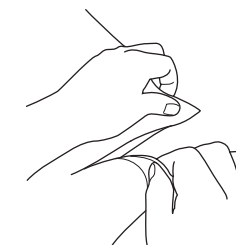
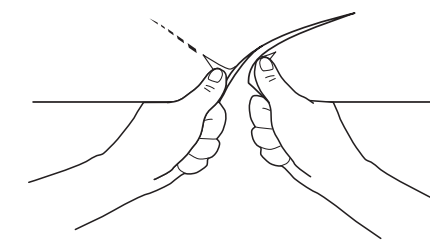

Figure 3
Figure 4
5. Tear at least one red tab 3-6 in (8-16 cm) to activate Speed-Sheet (Figure 3 or Figure 4). **Note: Tearing more than one tab can improve performance.**